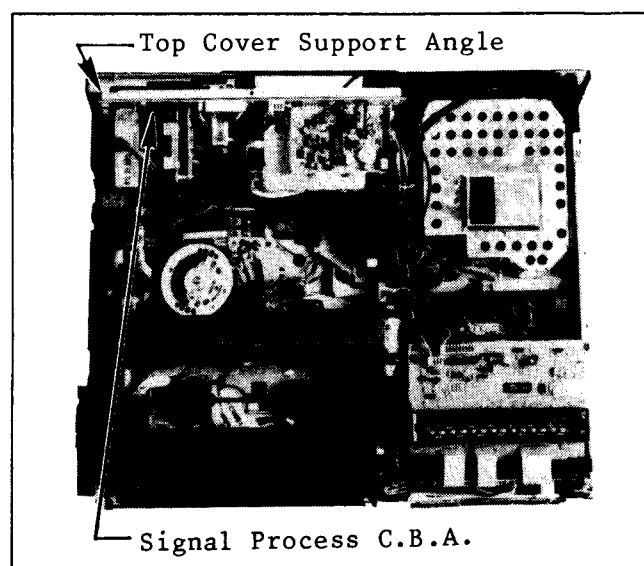

Fig. M8 Setting of Signal Process C.B.A.
2. Place the deck so that the left side faces down, hold the deck with your hand and remove 2 screws (G) and Locking Tab on the Audio C.B.A. Then open the Audio C.B.A.
4. Remove the 5 red screws (F).
5. Lift Signal Process C.B.A. Slightly and then turn the C.B.A. to set it as shown in Fig M8.